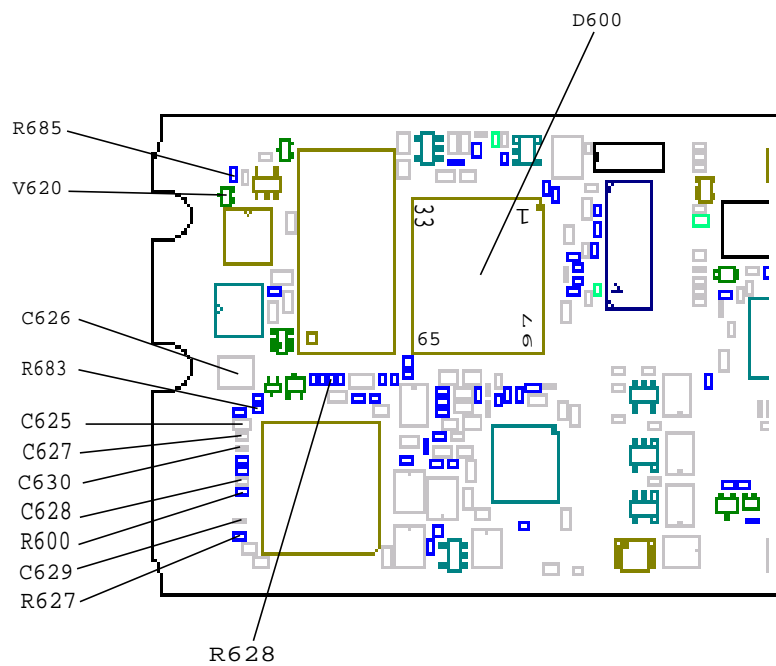

Fig. 7.2
Open the phone and check for liquid damages. Replace the SIM-card holder, assemble the phone and try again. If it doesn’t work, open the phone. Make sure that the system connector hasn’t damaged V620 and R685 (both of them class A, fig.7.2). Replace and try again if damaged. If it still doesn’t work, open the phone and check the solderings at D600 pads 72 to 75 (fig.7.2). If the solderings are correct, measure the signals to the SIM-card using an oscilloscope.
- * **SIMVCC** to ground is too low, replace C625, C626 and C627 (all of class A, fig. 7.2).
- * **SIMCONRST** to ground is too low, replace C628 (class A, fig. 7.2).
- * **SIMCONDAT** to ground is too low, replace C630 (class A, fig. 7.2).
- * **SIMCONCLK** to ground is too low, replace C629 (class A, fig. 7.2).
Measure the resistances of R600 (~33 ohms), R627 (~0 ohms), R628 (~33 ohms) and R683 (~0 ohms, all of class A, fig. 7.2).
If all of the measurements are correct, replace D600 (class B, fig. 7.2).